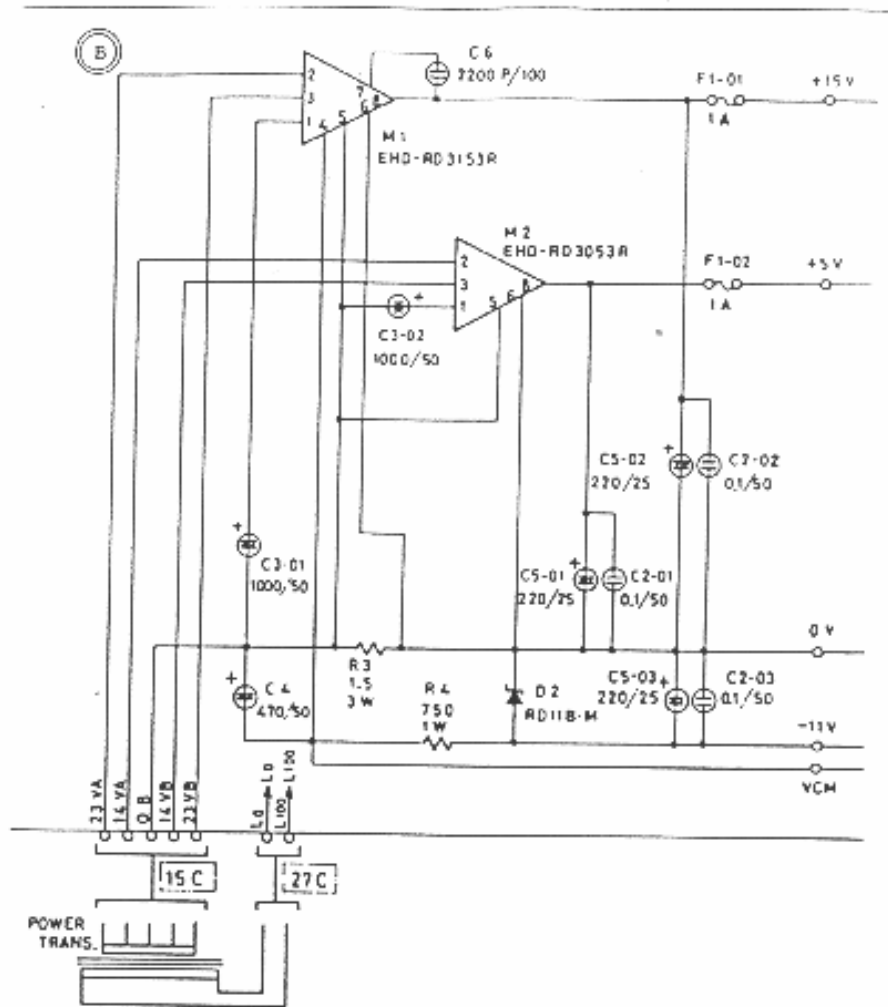
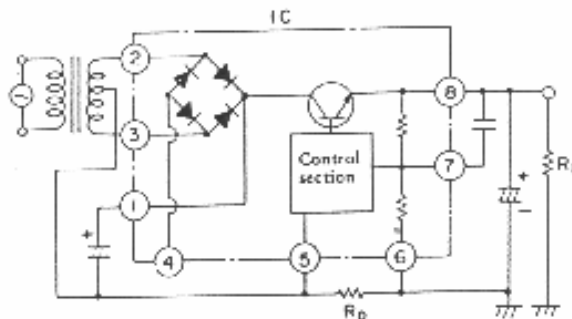

Fig. 3-2-1
Fig. 3-2-2
- (1) Figure 3-2-1 is the connection diagram of this circuit.
The chain-lined area of Fig. 3-2-2 is a rough sketch of internal circuit of M1 and M2.
- (2) Resistor  $R_3$  in Fig. 3-2-1 (resistor  $R_0$  in Fig. 3-2-2) is provided to detect the load current.